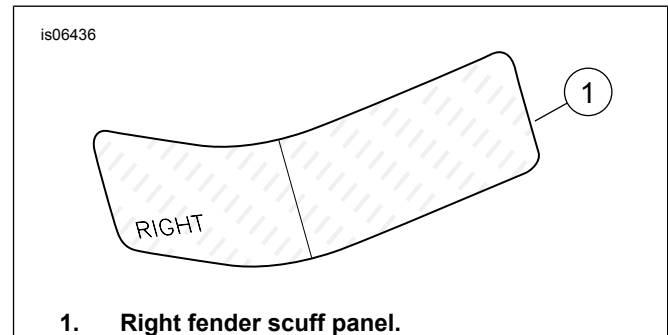

Figure 1. Fender Scuff Panels
2. See Figure 1. Obtain the right fender scuff panel. Do not remove the adhesive tape backing from the panel.